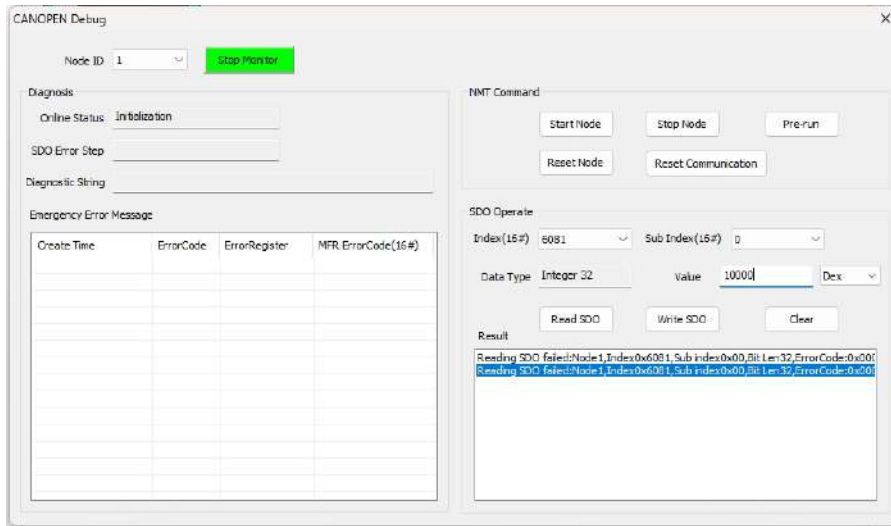

Figure 3-22 SDO Read/Write Interface
Step 3: Use Write SDO and Read SDO to access each index, as shown in Figure 3-22. After writing the parameters per Figure 3-22, the motor will move in Profile Position Mode.